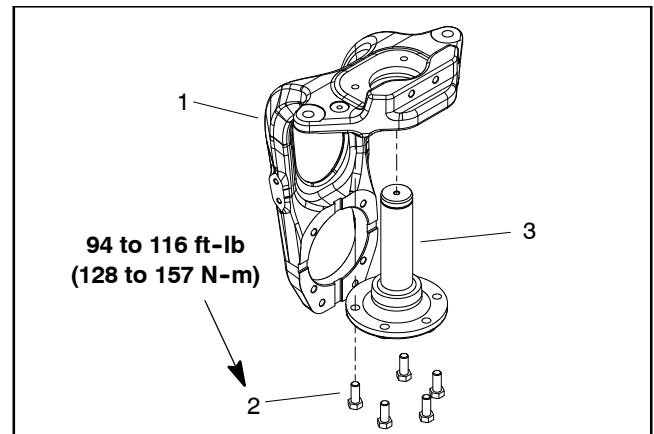

Figure 21
11. Remove the flange head screw (item 21), spindle cap (item 20) and retaining ring (item 19) that secure the steering fork shaft into the axle tube. Slide the steering fork out of the axle tube. Locate and retrieve thrust washers (items 7 and 11) from steering fork spindle.
12. Thoroughly clean the steering fork spindle. Inspect the shaft for wear and replace steering fork spindle if shaft is worn or damaged (Fig. 21). If spindle was removed from steering fork, torque cap screws from **94 to 116 ft-lb (128 to 157 N-m)** during assembly.